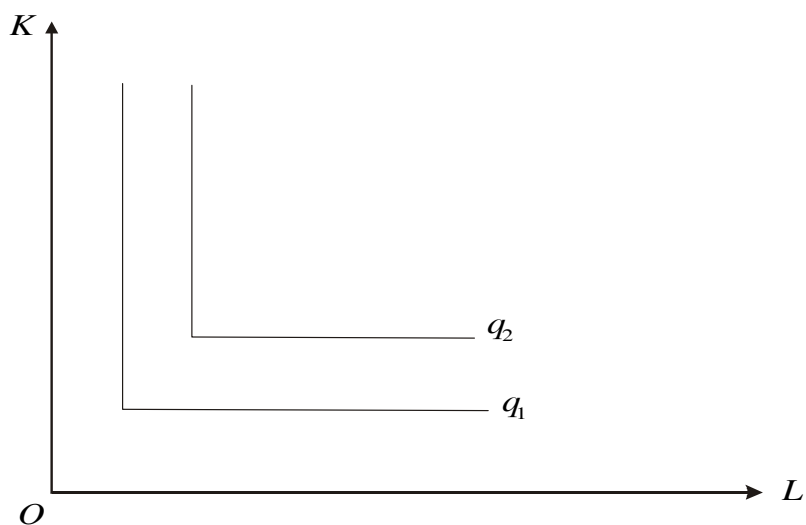

Fig. 4.15: L-shaped Iso-quants
- 2) **L-shaped:** Assuming strict complementarity between the inputs i.e., no substitutability of factors of production, we get L-shaped iso-quant (see Figure 4.15). It implies there is only one method of production.